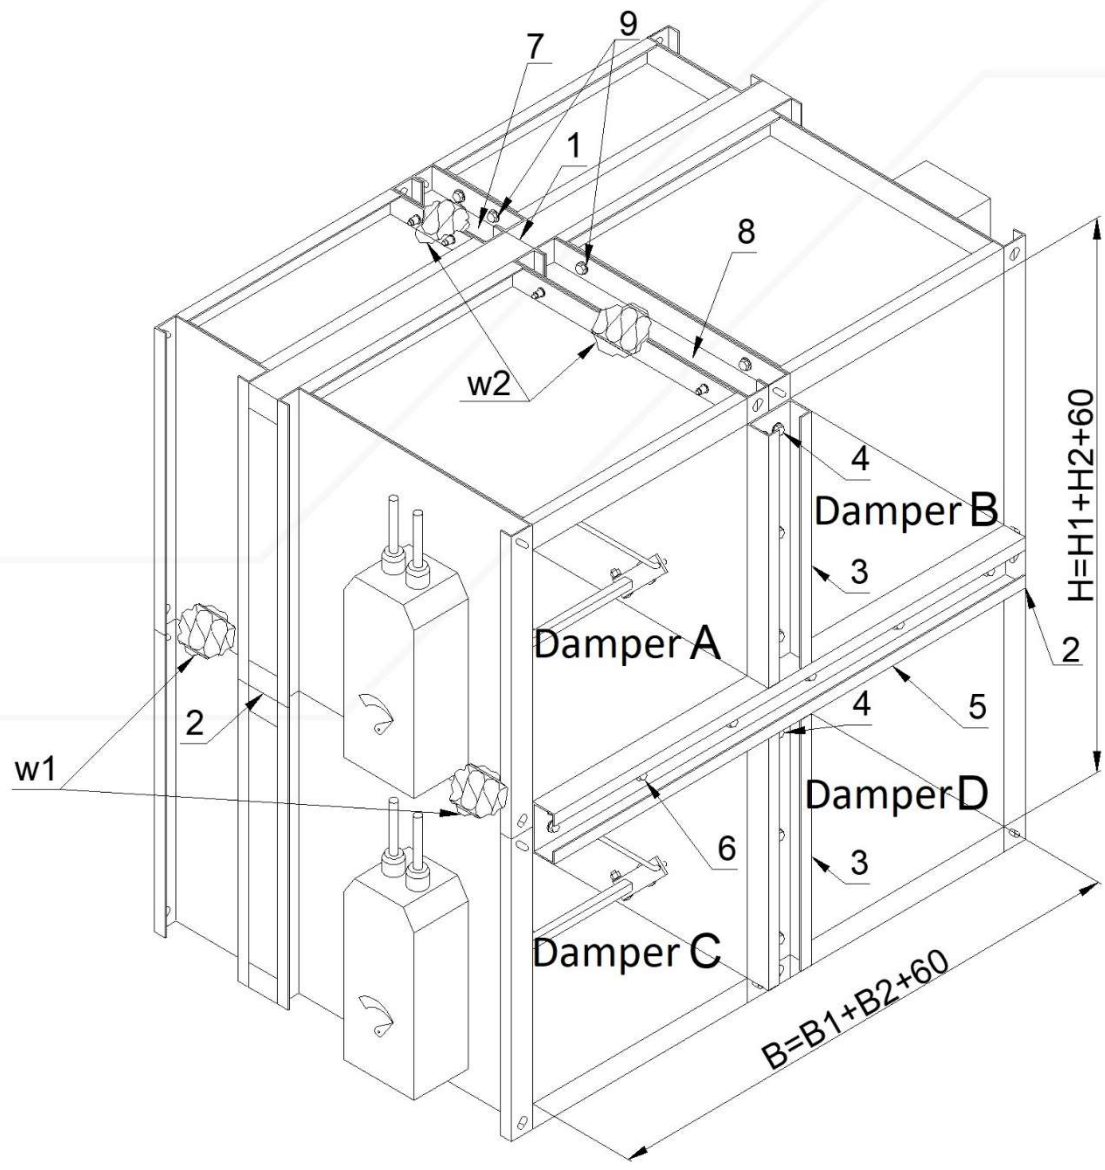

Figure 13. Battery made of four dampers KWP-O-Ex
Arrangement 3 - horizontal battery consisting of two fire dampers KWP-O-Ex (Figure 13)
- Fix the gasket on insulating spacer of one of adjoining fire dampers (position (1) in the Figure 13).
- Set together the sides of fire damper A and the fire damper B (where the gasket was fixed) and assemble them together on the front and back with use of perforated assembly strips (2) and self-tapping screws M6x16 (3), which should be tightened into the openings in fire damper body. In order to carry out the correct assembly, 4 self-tapping screws should be used per each assembly strip with length of 1200 [mm].
- a. Fix the gasket on insulating spacer of one of adjoining fire dampers (position (2) in the Figure 13).